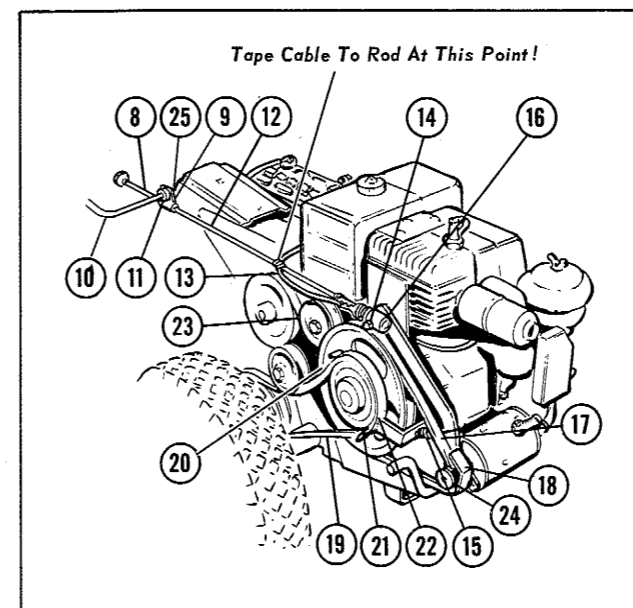

Figure 1
1. Remove the three bolts (1) and install battery bracket assembly (4) as shown. Replace the bolts with heads toward the battery and tighten the nuts securely.
2. Refer to Fig. 1. The rod guide assembly (9) is slipped over the implement clutch lever (10) and is held in place by a set collar (11).
3. Remove the belt guide assembly (22) and the implement power take-off belt (19). Loosen set screw and remove implement power take-off pulley (21), then place starter pulley (20) on engine shaft, with its set screw toward the outside. The starter pulley fits against the engine drive pulley, however, check to see that the idler pulley (23) properly clears the starter pulley when the idler is engaged, then tighten starter pulley set screw securely. Replace the power take-off pulley (21) and place the starter belt (18) around the starter pulley. Replace the power take-off belt on its pulleys, then attach the belt guide in its proper position as pictured in Fig. 1. Note that the starter belt (18) must be positioned over the belt guide bracket at the rear so it can engage the pulley on the starter motor. Be careful to place the belt guide so that it is the same distance from the belt at each point around its circumference.
4. Hold the starter motor pivot bar (5) against the hood pivot tube (7). Insert the U-pivots (6) around the hood pivot tube (7), lining up the holes with the holes in the motor pivot bar and insert the cotter pins. Push the cotter pins all the way through and spread them enough to hold. The U-pivots should be loose so the starter motor will rock freely and not stick when parts become dirty.
5. Install the starter rod (8) through the starter rod guide (9), and attach black knob. Swing starter motor control arm (17) to position shown in Fig. 1. Install switch body (16) over stud, making sure the copper tube contact is over the stud. Tighten lock nut on stud (14) snug against the copper tube for good electrical contact.
6. Place starter belt (18) over starter motor pulley (24) as shown. In order to get the belt between the pulley and the guard, it may be necessary to loosen the two pulley set screws and move the pulley out. Then re-align the pulleys carefully and re-tighten set screws.
7. Install spring (15) as shown in Fig. 1.
9. Remove the first nut and lock washer from the terminal on top of the starter motor, then attach the rubber protector end of cable (3) to the terminal and secure with the lockwasher and nut. Place the rubber protector in proper position over the terminal as shown in Fig. 1. Thread the cable from the starter motor, over the right side of the hood pivot tube, under the recoil starter and up along the side of the flange of the transmission case.
10. Cable (13) is fastened to the switch at the factory. Thread cable over the starter rod. Form a generous loop in front of the gas tank, then run cable under the seat bracket. NOTE: Be sure the loop in front of the gas tank is ample to prevent rubbing the cable against the corner of the tank when starting the engine. Both cables are secured with clamps, one on each side of the right side plate. Be sure the gasket insulators are around the cables at the point where they fit into the clamps. Place cable (13) into inside clamp, cable (3) into outside clamp, and bolt clamps to side plate at top rear hole of the right side plate, with head of bolt to the outside. Tighten the nut securely.
In order to additionally secure the cable (13), tape it to the starter rod as indicated in Fig. 1.